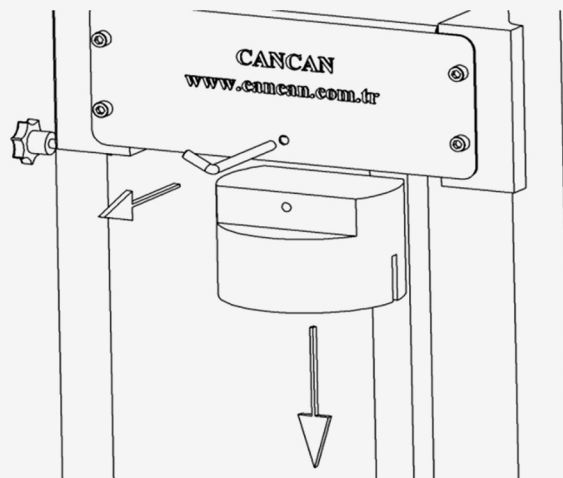

Figure 7
- ✓ In order to take out front part of machine, pull out the L shape bottom and pull down (Figure 7).